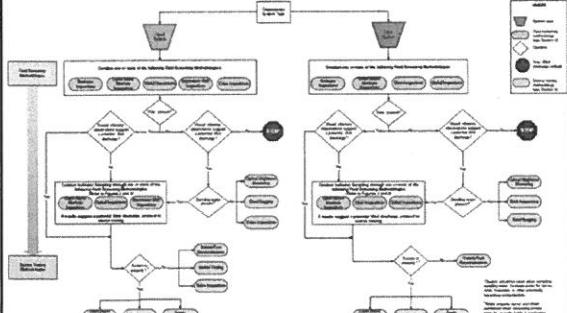

Figure 1. Field Screening and Source Tracing Methodology Flow Chart.
- Figure 1 – Field Screening and Source Tracing Methodology Flow Chart